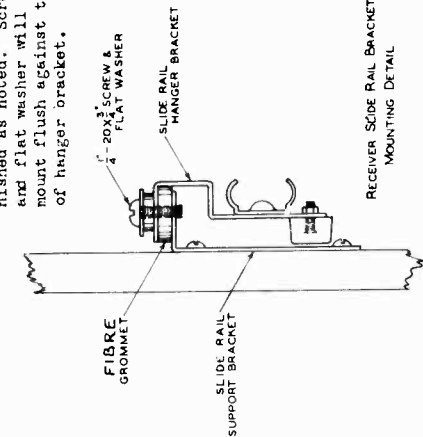

Figure 2
5. Fasten the slide rail hanger brackets, which are packed with the receiver, onto the support brackets which are mounted in the cabinet using the rubber grommets, screws and flat washers furnished with the receiver, as shown in detail drawing Figure 2.